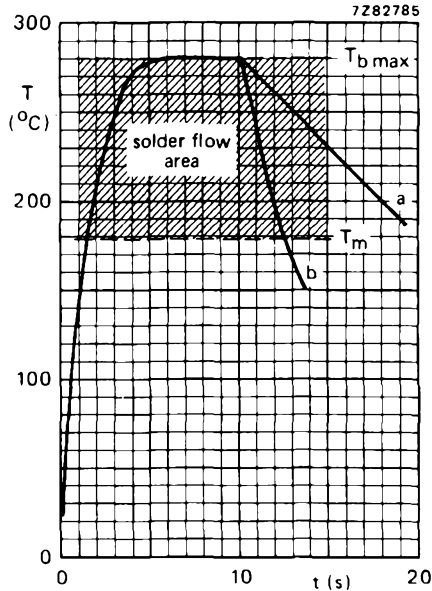

Fig. 1 Device temperature during immersion soldering.
- c. Forced cooling may be applied (see Fig. 1).